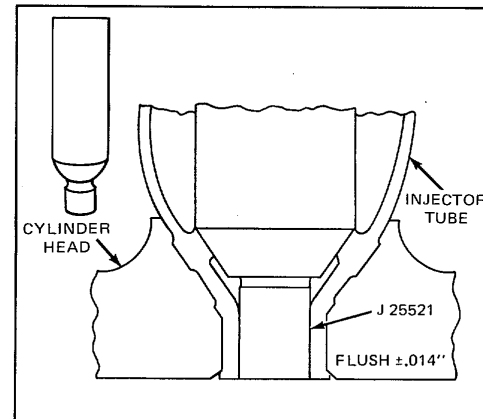

Figure 7. Measuring Relationship of Gage to Cylinder Head Fire Deck
Install gage J 25521 in the injector tube. Zero the sled gage dial indicator J 22273 to the fire deck. Gage J 25521 should be flush to ± 0.014 inch with the fire deck of the cylinder head (Fig. 7).
- d. Remove the chips from the injector tube and, using gage J 25521, continue the reaming operation until the shoulder of the spray tip is flush to ± 0.014 inch with the fire deck of the cylinder head as shown in Fig. 7. Then wash the interior of the injector tube with clean solvent and dry it with compressed air.